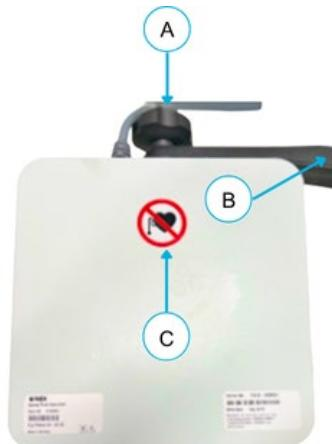

Figure 10-23: Field Generator Orientation
1. Attach Field Generator to Field Generator Arm (**B**) using black knob (**A**) (**Figure 10-23**).